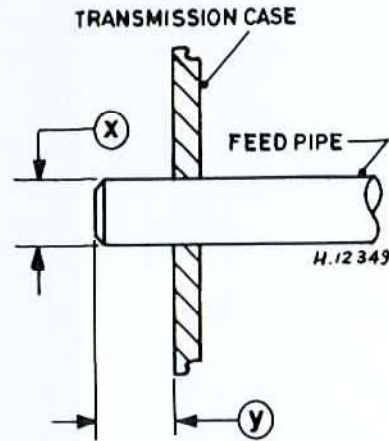

Fig. 14.7 Automatic transmission feed pipe dimensions (Sec 9)
- 3 Consult your BL dealer if you think it necessary to carry out these checks; the operation is beyond the scope of this manual. For information, the pipe diameter and end clearance are shown in the accompanying figure (Fig. 14.7). If end clearance is not sufficient, remove the transmission front cover and carefully lever the pipe towards the governor. Take great care not to distort the pipe when refitting the governor; retain the pipe in position with a suitable lever to prevent it from being pushed back into the casing.